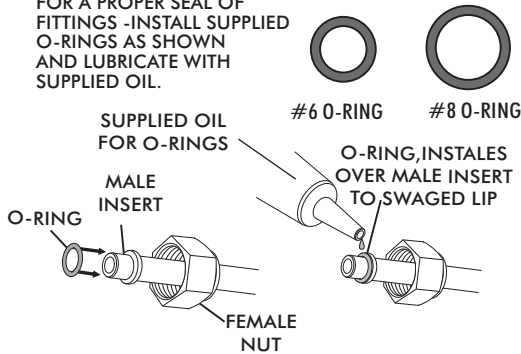
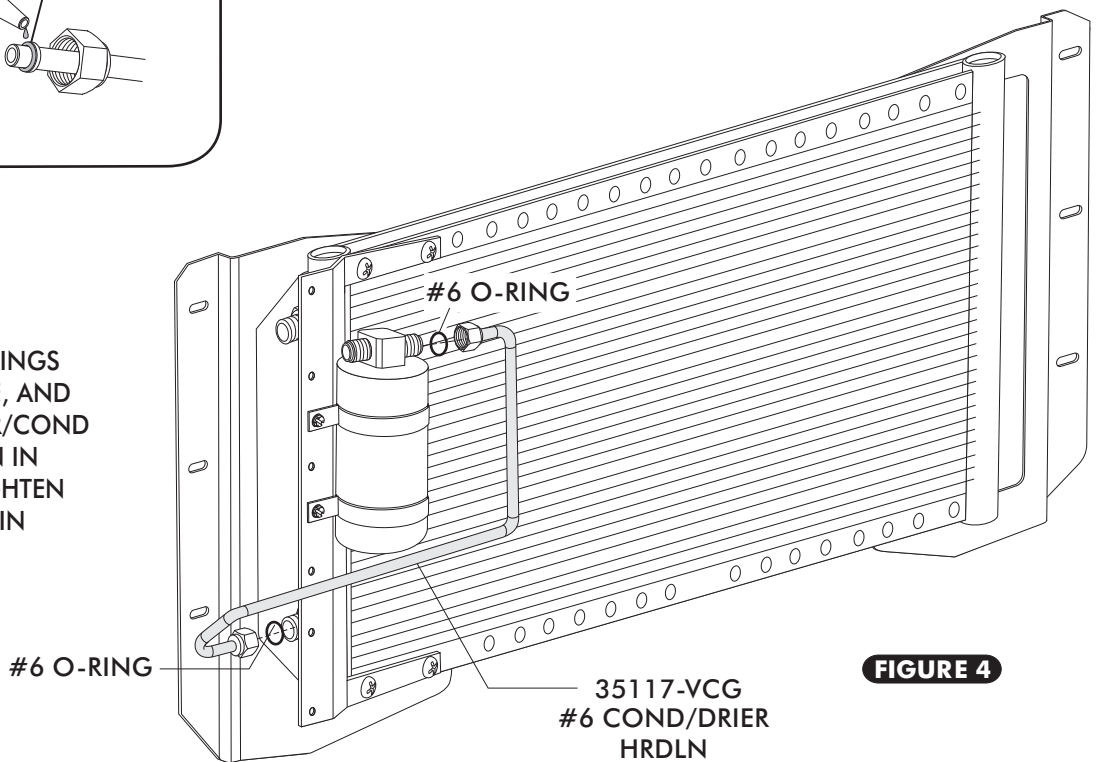
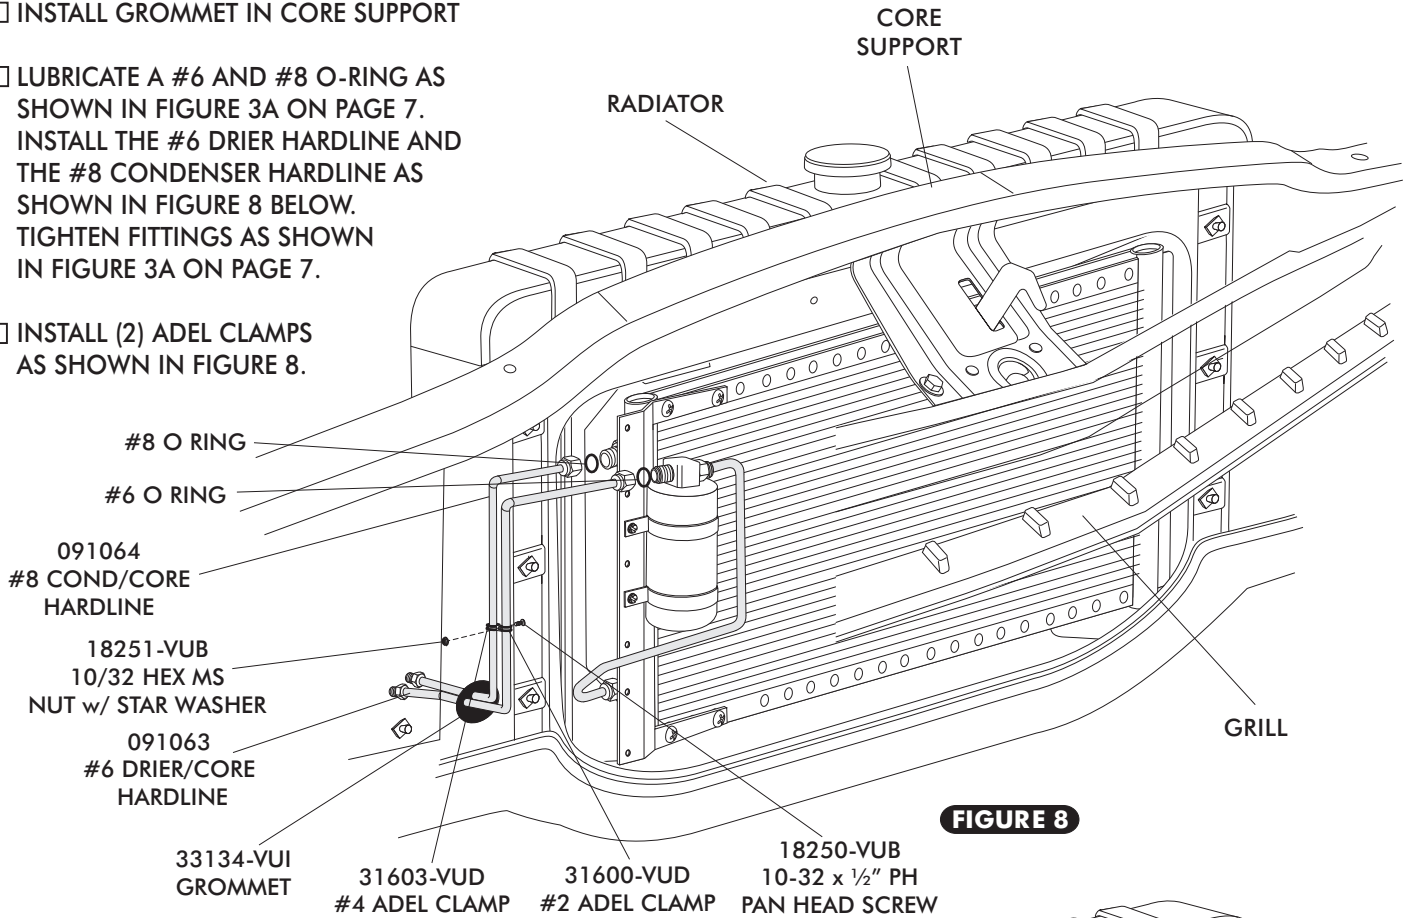

FIGURE 3A
FIGURE 4
FIGURE 8
- LUBRICATE (2) #6 O-RINGS SEE FIGURE 3a ABOVE, AND INSTALL THE #6 DRIER/COND HARDLINE AS SHOWN IN FIGURE 4 BELOW. TIGHTEN FITTINGS AS SHOWN IN FIGURE 3a ABOVE.
- LUBRICATE A #6 AND #8 O-RING AS SHOWN IN FIGURE 3A ON PAGE 7. INSTALL THE #6 DRIER HARDLINE AND THE #8 CONDENSER HARDLINE AS SHOWN IN FIGURE 8 BELOW. TIGHTEN FITTINGS AS SHOWN IN FIGURE 3A ON PAGE 7.
- INSTALL (2) ADEL CLAMPS AS SHOWN IN FIGURE 8.